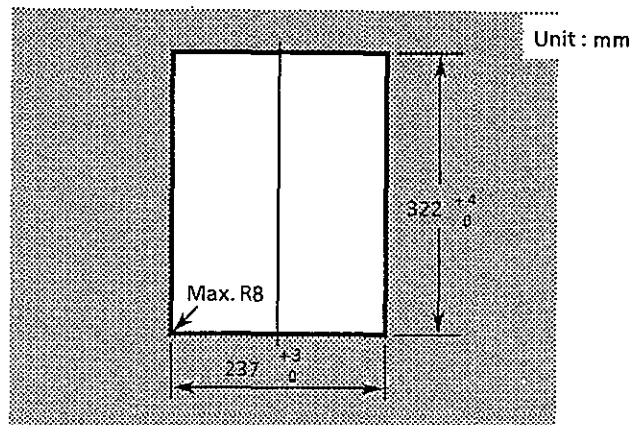

Figure 3.10 Panel Cut Dimensions
- (1) Cut out the panel according to Figure 3.10.